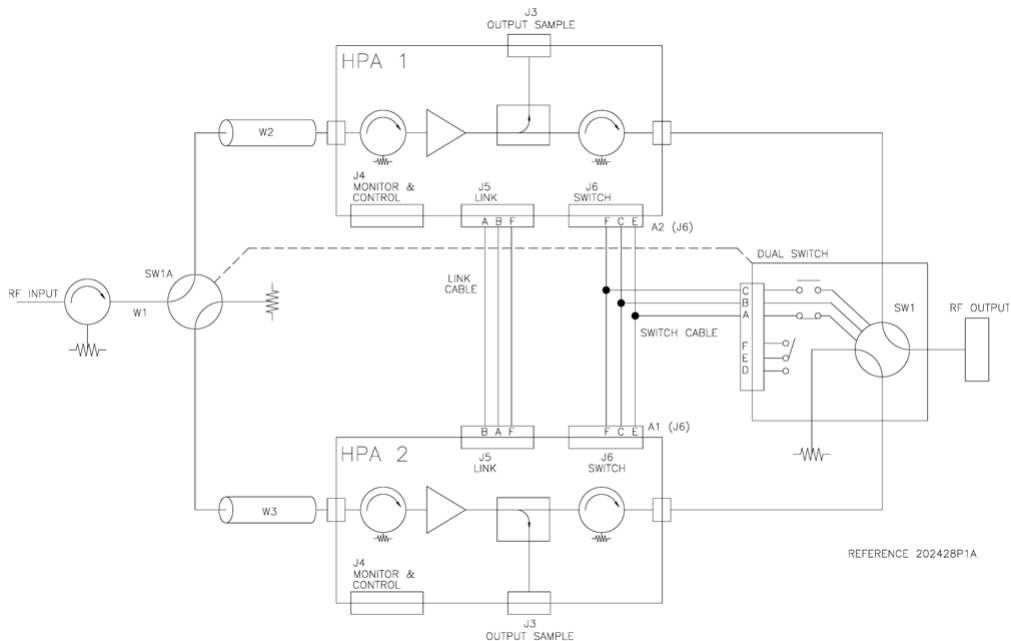

Figure 4: 1:1 Redundant System with Link Cable and Switch Cable Installed
The hardware setup for an outdoor 1:1 Redundant System is very simple and involves the addition of (2) cables along with a redundancy switch. A schematic diagram of the redundancy setup is shown in Figure 4.